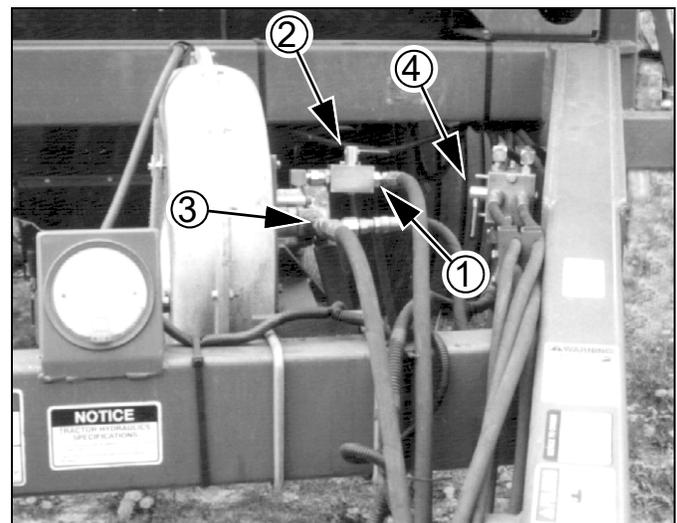

Figure 15
**Refer to Figure 15**
2. Connect the hose with the Extended-Cylinder symbol ① to the side of the circuit you choose to be the pressure side. This hose supplies the fan (at fan shutoff valve ②) and rear port F.
4. Connect hose with SUMP decal to the tractor hydraulic reservoir. Refer to your tractor operator's manual for instructions. The sump hose ③ is also routed to rear port G.
A diverter valve on the cart (④ in *Figure 15*) switches flow between auger and rear ports.